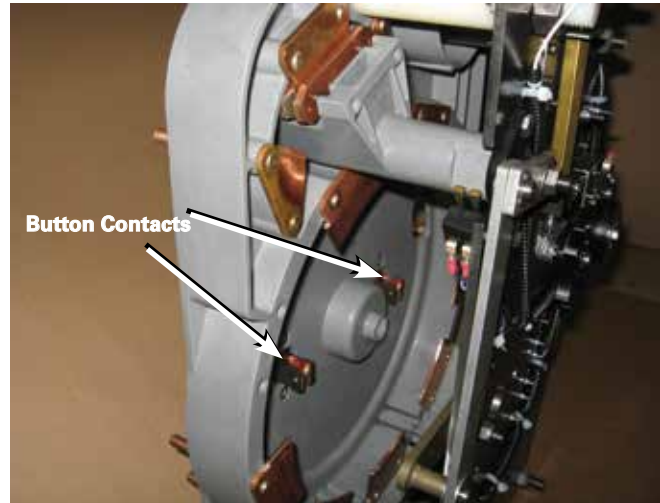

Figure 11. Removal of main contacts.
- Pull the main shaft completely out of the back of the molded panel. Pull the contact rings out of the button contacts and remove the movable contact panel assembly. Refer to Figure 11.